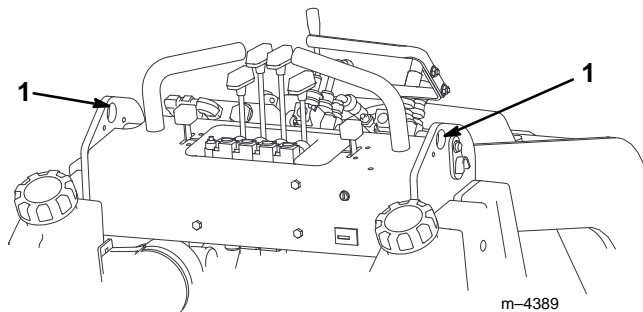

Figure 11
2. Lift the traction unit off the ground, using the two lift points (Fig. 11) and move onto a trailer.